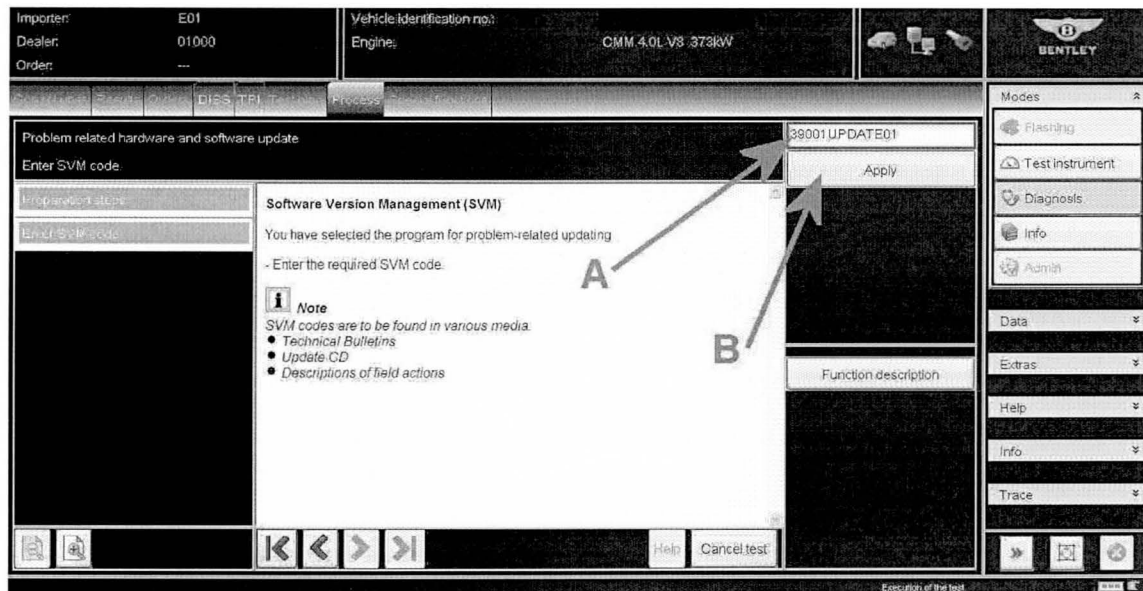

Figure 8
3. When prompted enter the SVM code **39001UPDATE01** as shown in Figure 8 Point A